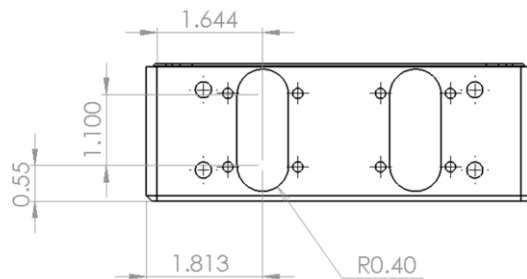

Fig. 3: LIDAR Slot Locations
- 4) Locate the cut locations for the LIDAR slots. These are referenced in Fig. 3 below.
- 5) As seen in Fig. 3, these slots have a radius of 0.40" and a length of 1.10" between each circle's center. Cut these slots, based on their locations in Fig. 3, from both long-sides of the box.